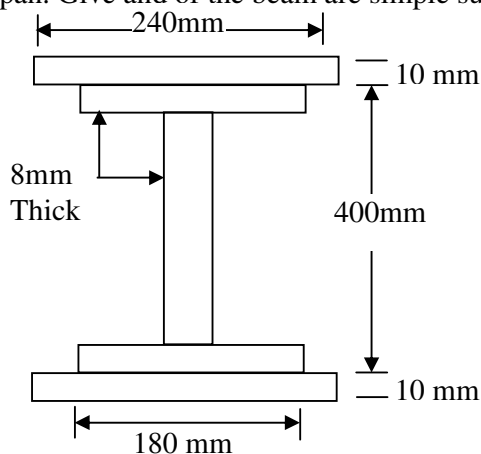

Figure 4
7. A symmetrical I section of size 180mm  $\times$  400mm, 8mm thick is strengthened with 240mm  $\times$  10mm rectangular plate on top flange as shown in Figure 4. If the permissible stress in the material is  $150\text{N/mm}^2$ , determine how much concentrated load the beam of this section can carry at centre of 4m span. Give and of the beam are simple supported